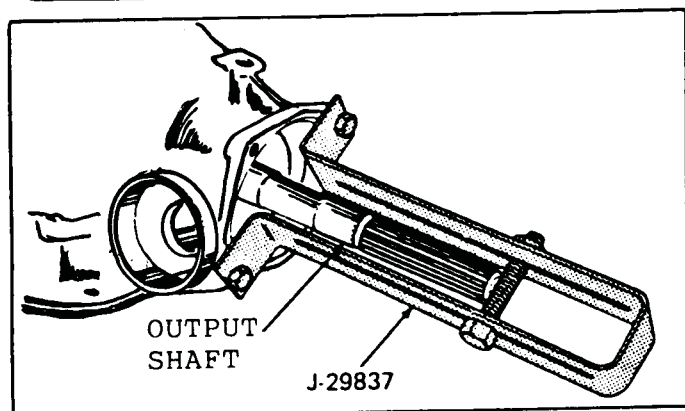

Figure 50
6. Install J-29837 output shaft support fixture, as shown in Figure 50.